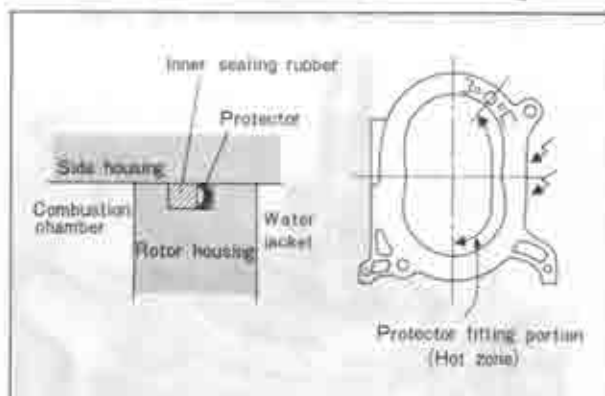

Fig. 1-64 Installing sealing rubber protector
2) When engine overhauling, install the protector to behind of the inner sealing rubber, as shown in Fig. 1-64, to improve the durability of the sealing rubber.